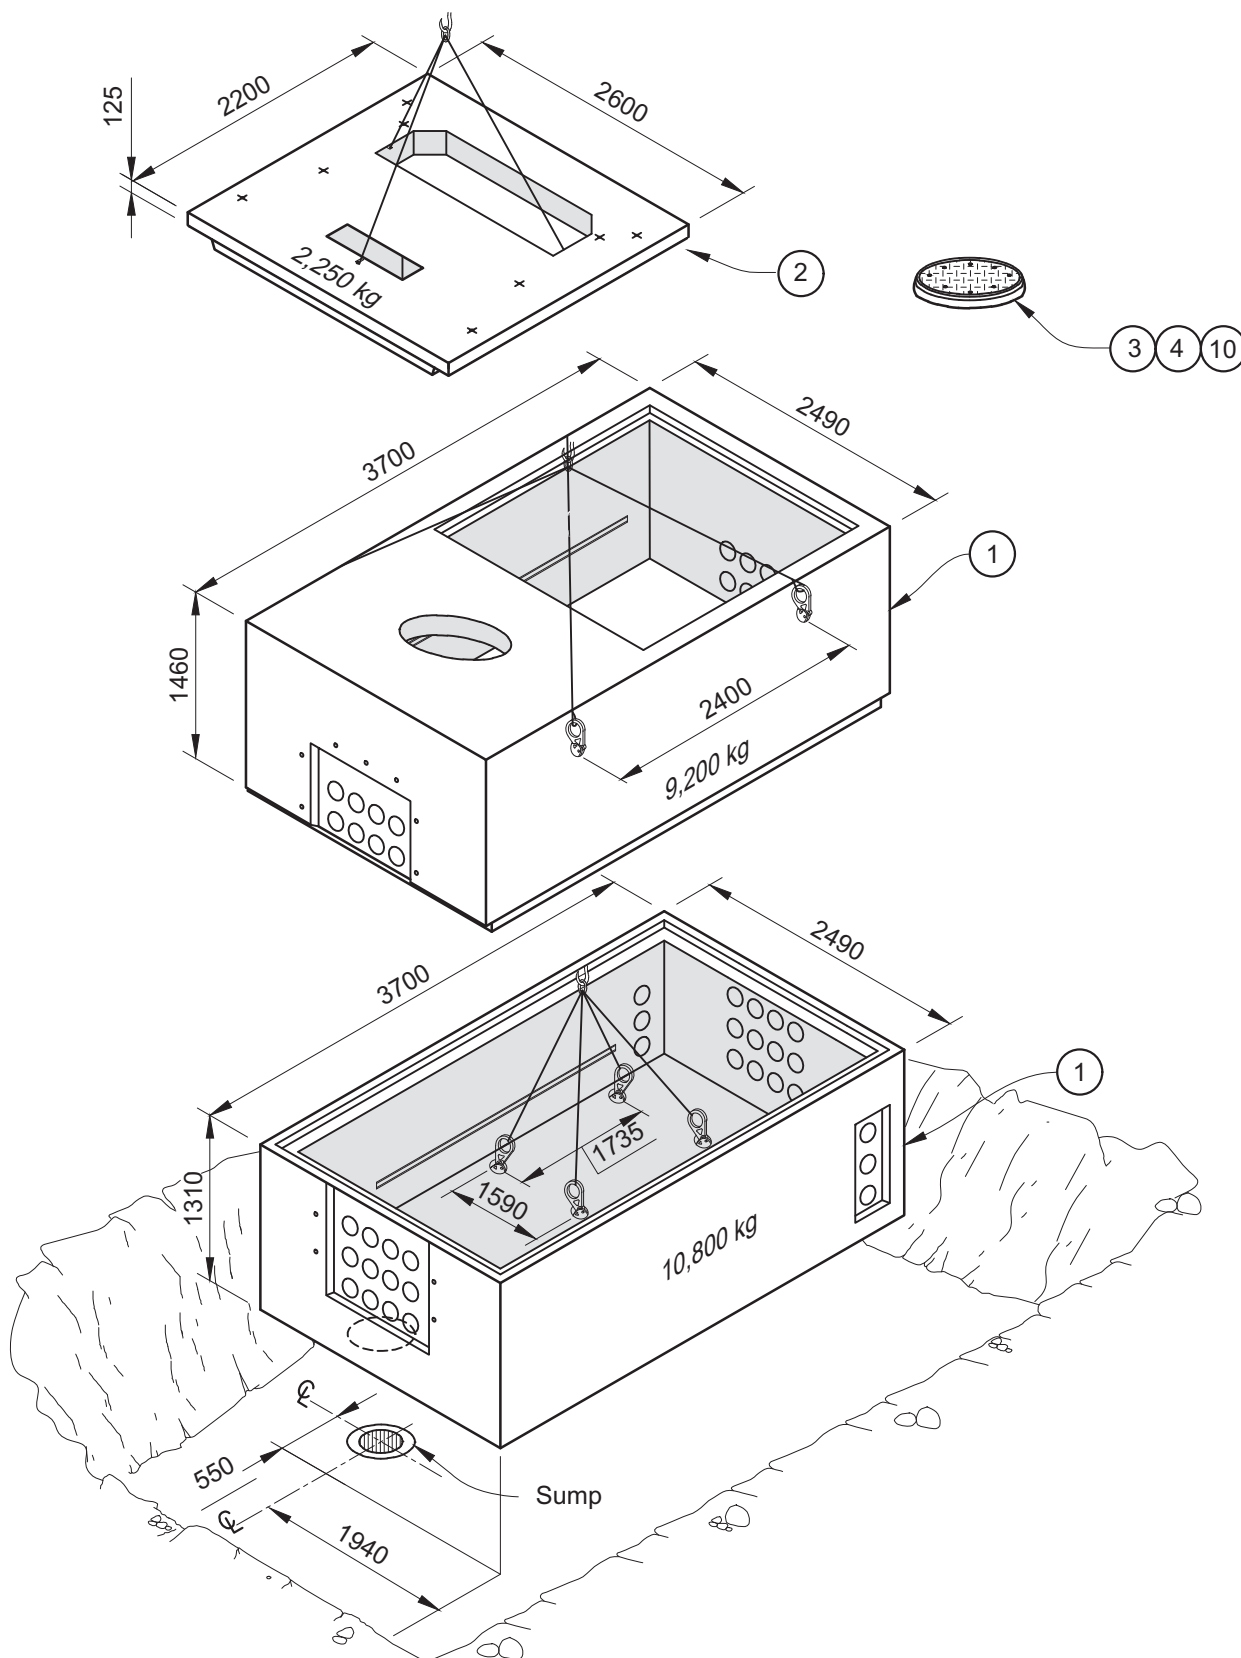

Figure 1 – 5-way over-vault precast vault installation details
Added *Application* and *Revision Notes* sections. Updated *References*. Updated item 6, removed ground rod from item 8, and removed item 12 (pulling iron) in *Items Required* table. Removed note about pulling iron complying with ES54 H1-06. Updated note 5 for clarity. Updated Figure 1 due to a change in manufacturer to change weights, dimensions, sump location, and lifting mechanism to incorporate manufacturers' lifting clutches. Updated Figure 2 plan view to remove ground rods and reference to item 12, and Figure 2 section view to add ground plates, integral ground loop, and note to connect to Ufer. Updated Figure 3 to remove ground rods. Substantive changed content is marked by green vertical revision lines in the left margin. This standard released concurrently with Standards and Equipment Advisory Information Bulletin 2024-013 *Revised ES54 E4-01 and E4-03 Above Ground Switchgear Over-Vault 4-Way and 5-Way*.
Added *Application* and *Revision Notes* sections. Updated *References*. Added contractor supplier option for 125 mm duct plug in item 5, updated item 6, removed ground rod from item 8, and removed item 12 (pulling iron) in *Items Required* table. Removed note about pulling iron complying with ES54 H1-06. Updated note 5 for clarity. Updated Figure 1 due to a change in manufacturer to change weights, dimensions, sump location, and lifting mechanism to incorporate manufacturers' lifting clutches. Updated Figure 2 plan view to remove ground rods and reference to item, and Figure 2 section view to add ground plates, integral ground loop, and note to connect to Ufer. Updated Figure 3 to remove ground rods. Substantive changed content is marked by green vertical revision lines in the left margin. This standard released concurrently with Standards and Equipment Advisory Information Bulletin 2024-013 *Revised ES54 E4-01 and E4-03 Above Ground Switchgear Over-Vault 4-Way and 5-Way*.